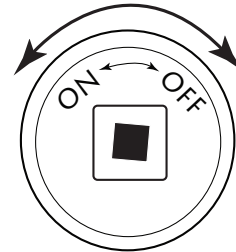

Fig. 14 Key Valve Face
1. Insert key into shut-off valve and secure into square end (See Figs. 14 & 15).